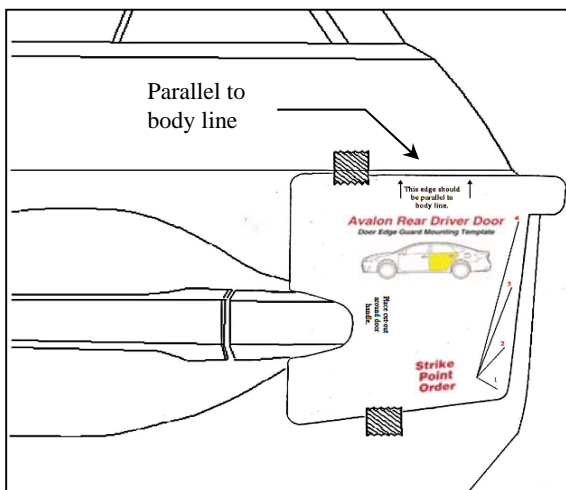

Fig. 1-3
- (2) Select the rear door template and fit the notch around the door handle. Adjust it as needed to ensure it is aligned to the character line as noted on the template. If needed, tape it into place using painter’s masking tape (Fig 1-3).